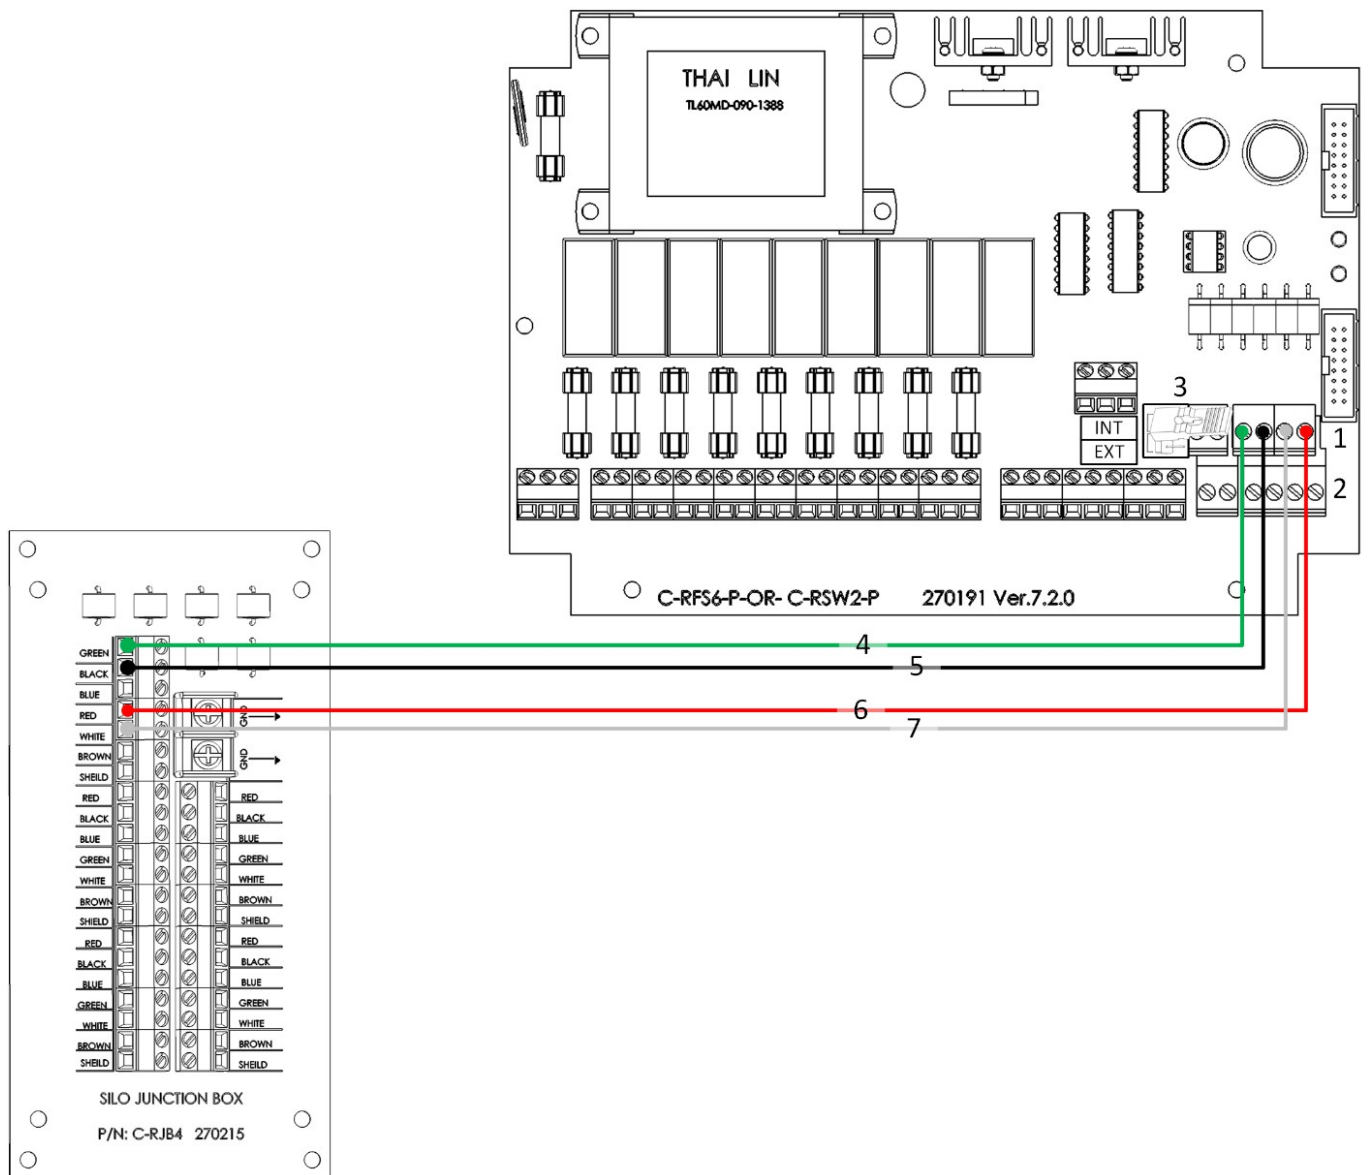

Figure 3: RJB-4 to RSW-2 Wiring
3. The RSW-2 cell has a 4-wire shielded cable. Run these wires from the RSW-2 Silo A terminal block to the RJB-4 controller terminal block; attach each wire to the input slot with same color. For example, connect the red wire to the red input slot. Figure 3 illustrates the wiring.